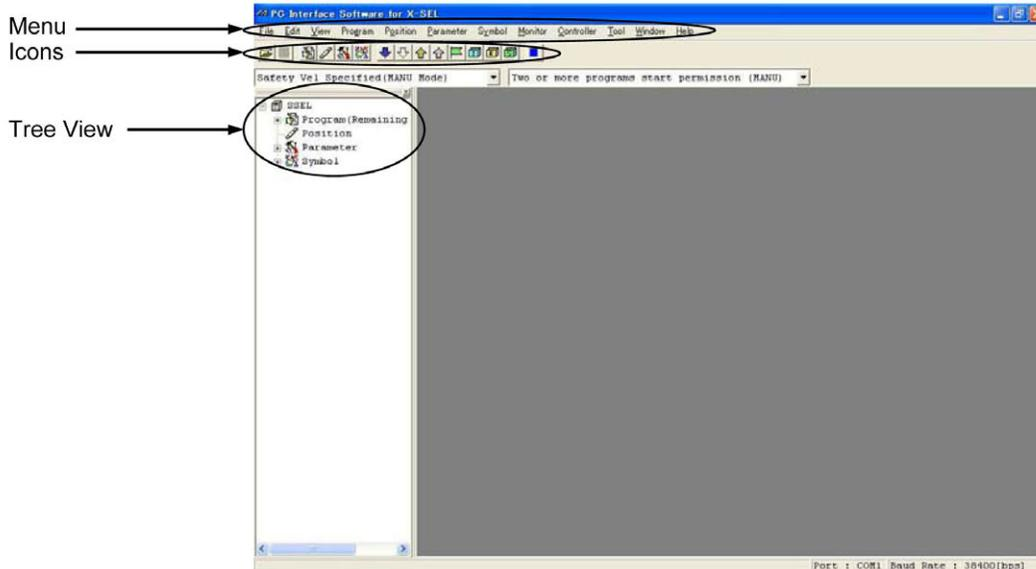

Fig.3.5 Online Screen (SSEL Controller in the Program Mode)
- (5) SSEL controller in the program mode.
When this software has been started, the main window in Fig.3.5 will open showing the menu items with icons on the tool bar in the case of the SSEL controller in the program mode. The tree view appearing on the left side of the window can be displayed by clicking View (V) from the menu bar and then selecting Tree View (T). (Initial window: Main menu)